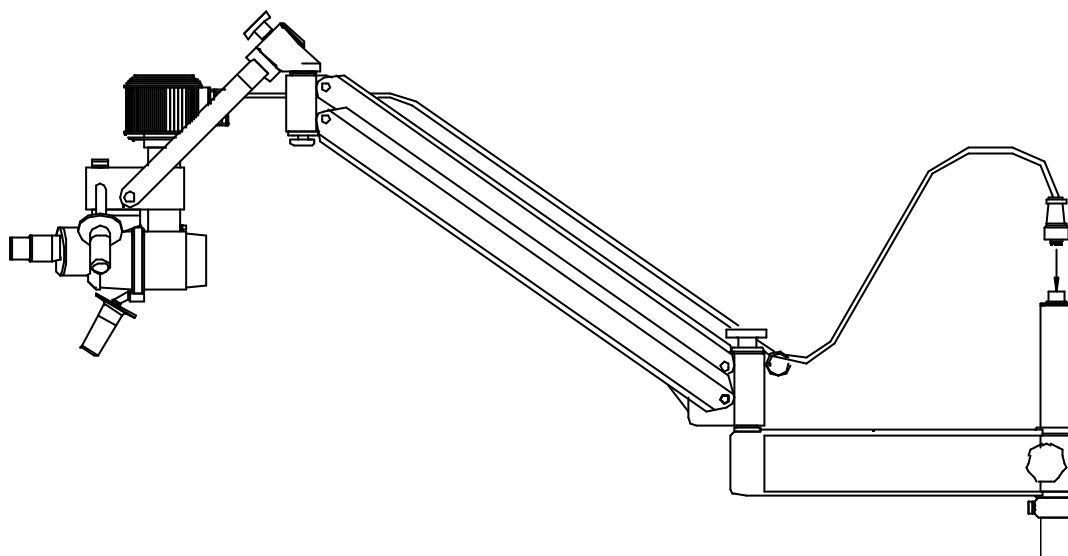

Figure 8 Connecting the lamphouse cable
1. Pass the lamphouse cable through the cable holders on the arm and attach the plug to the connector on the top of the pillar. This will ensure the cable does not obstruct the surgeon or come into contact with the sterile area. Refer to figure 8..